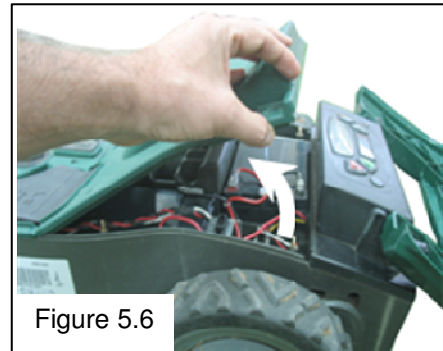
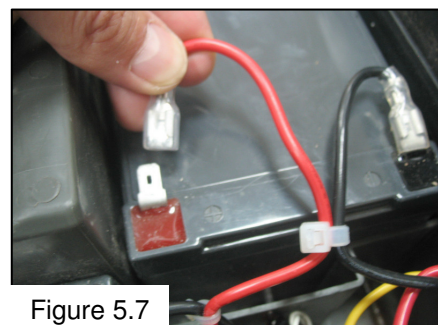

Figure 5.6
Figure 5.7
- Lift the rear side of the cover (see figure 5.6) and disconnect only the two cables from the left battery (figure 5.7);